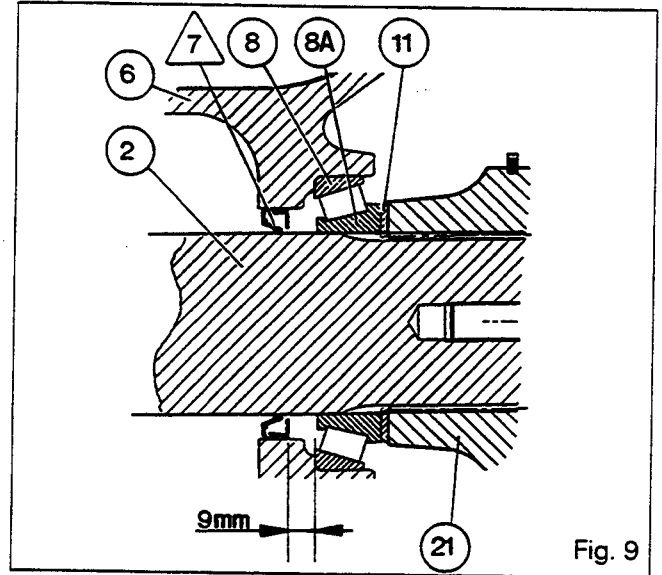

Fig. 9
- the spur washer (11) (Fig. 9)
4. Withdraw the shaft (2) from the trumpet housing.
- the cup (5)
- the housing (4) for seal /3\
- the cup (8)
So that the seal lip is not in the same place on the shaft, press on the seal until it is 9 mm from the shoulder of the cup (Fig 9).